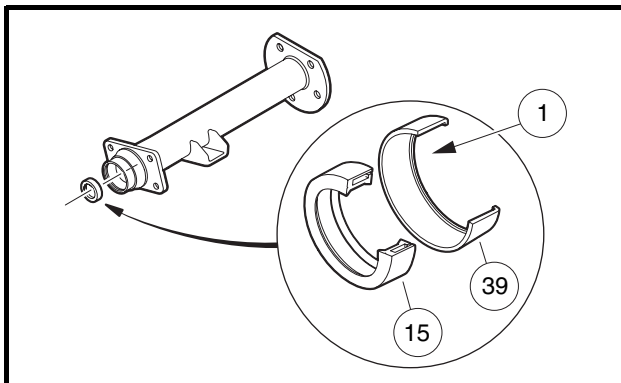

Figure 28-3 Axle Seal and Adapter Ring
- 6.2. Use a press to separate the axle oil seal (15) from the adapter ring (39) **(Figure 28-3, Page 28-2).** Retain the adapter ring and discard the oil seal.
- 1.1. Clean seal seat in the adapter ring (39) (**Figure 28-3, Page 28-2**).
- 1.2. Place a new seal (15) in the adapter ring with the seal lip facing toward the adapter ring lip (1) (**Figure 28-3, Page 28-2**). Use an axle seal tool (CCI P/N 1014162) and mallet to tap it in until it seats firmly in position (**Figure 28-3, Page 28-2**). A hydraulic press may also be used with the axle seal tool.